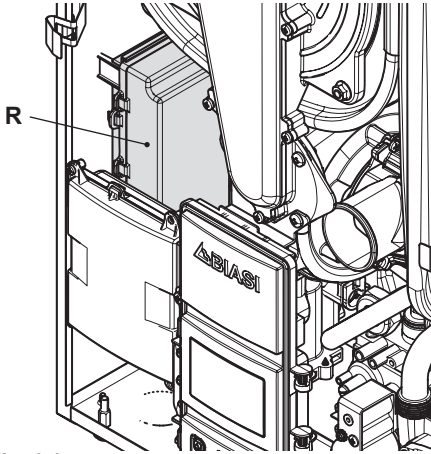

Fig. 6.17
- Identify the terminal block cover lid "R" (Fig. 6.17) and open it.